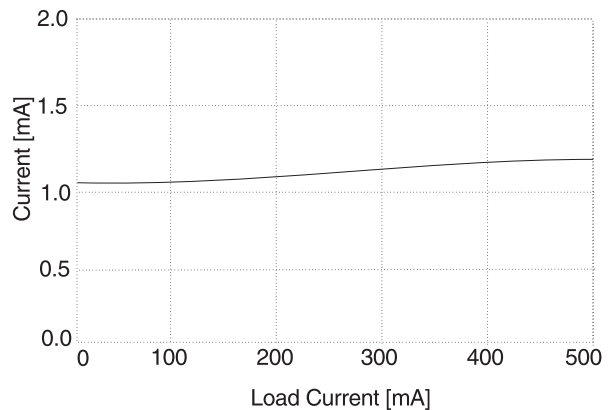

Figure 3. Ground Current.
**Ground Current** is shown across the entire range of load conditions in Figure 3. The ground current has minimal variation across the range of load conditions and shows only a slight increase at maximum load. This slight increase at rated load is due to the current limit protection circuitry becoming active.